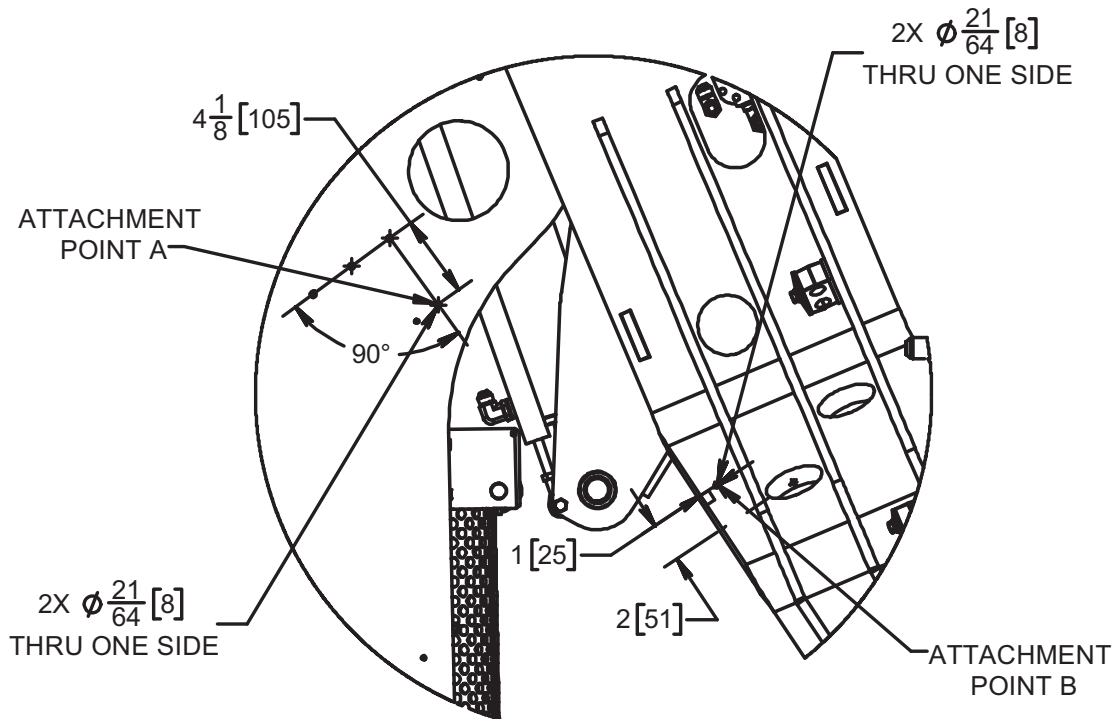
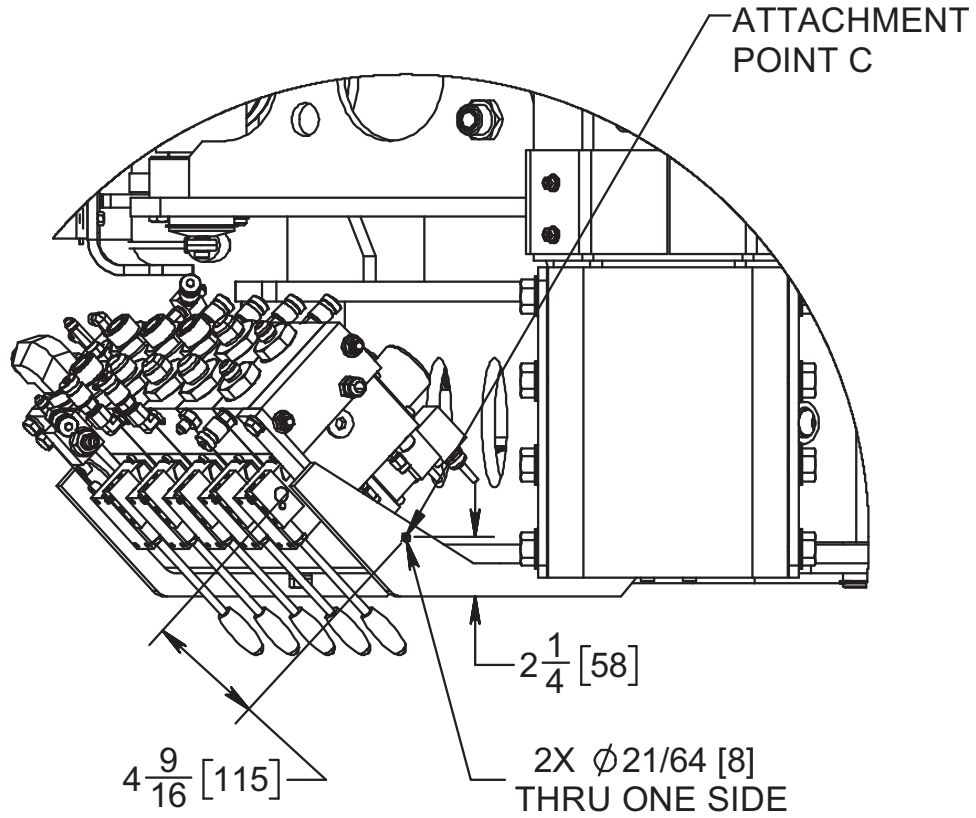

Figure 3: Detail A: TM120-125 Main & Jib Boom Drill Hole Locations
Figure 4: Detail B: TM120-125 Tong Valve Bracket Drill Hole Location
1. Using the 21/64" drill bit supplied with the kit, drill holes in the main boom, jib boom, and tong valve mounting bracket as indicated in Figure 3 on page 4 and Figure 4 on page 5.